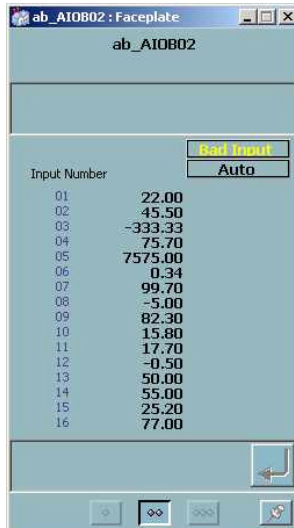

Figure 216. AIOB Module
**Analog Input Output Block (AIOB).** The Analog Input Output Block module faceplate represents a group of 16 analog values sourced from a CIO board. Figure 216 shows the layout of the AIOB normal sized faceplate and its attributes.